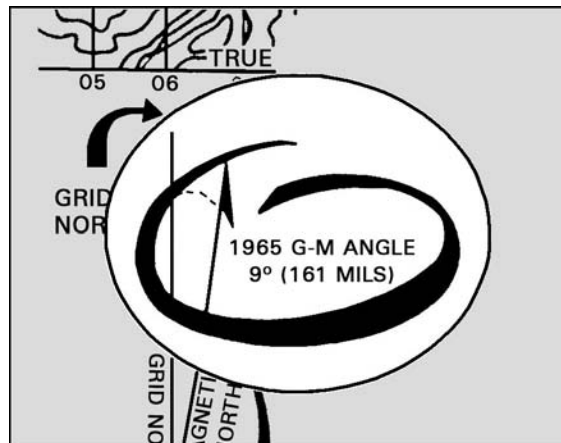

Figure 071-329-1009-2. G-M angle
3. For example, you aim your compass at a distant point. The compass reading you get is 190 degrees, the magnetic azimuth. The diagram on your map (figure 071-329-1009-2) tells you that the G-M angle is 9 degrees, and it also tells you that "to convert a magnetic azimuth to a grid azimuth, add the G-M angle." Therefore add 9 degrees to your compass reading. This gives you $190+9=199$. Your grid azimuth is 199 degrees.